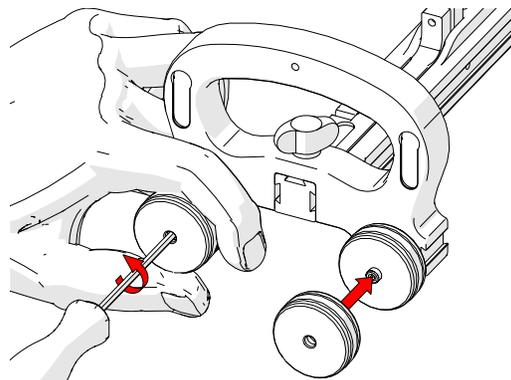

Fig. 31 - Additional wheel installation
6. Locate the threaded side of the magnetic wheel and orient the threaded side towards the scanner. Overcome the magnetic resistance to screw the additional wheel to the axle of the wheel block with handle (Fig. 31).